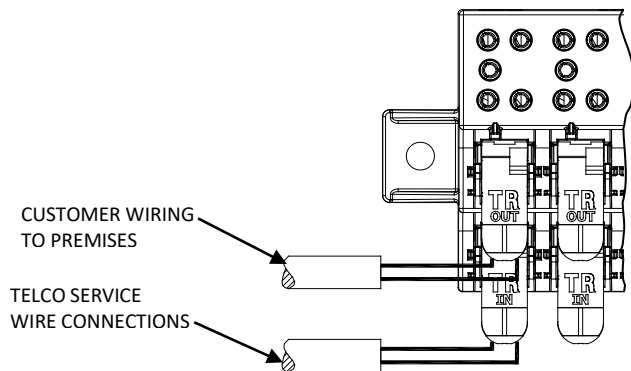

Figure 2
5. Push down the IDC rocker to the closed position for termination. See Figure 2 for wiring.
7. Push down the IDC rocker to the closed position for termination. See Figure 2 for wiring.